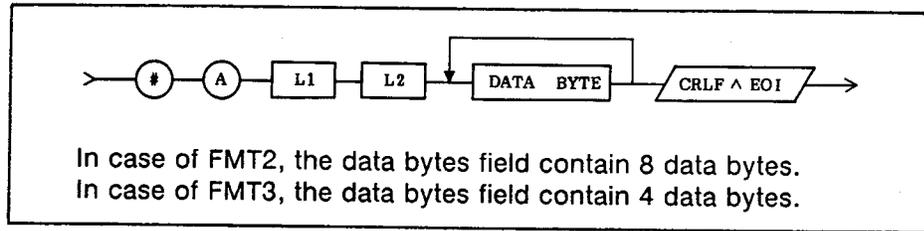

Figure 3-139. Syntax Diagram for FMT2 and FMT3
FMT2 is the 64 bit floating point binary specified in the IEEE Standard 728-1982. This is the same data format used by the HP Series 200 computers. Figure 3-139 shows the syntax diagram used for FMT2 and FMT3. This is one of the block data syntax diagrams defined by the IEEE Standard 728-1982. A block data field initiated by a unique code, the number, (#) sign. A second byte, (A), designates the data type. L1 and L2 is the block length bytes that indicates the number of data bytes in the the data block (L1: high byte, L2: low byte). The count includes all data bytes and the terminator, CR/LF(2 bytes), if they are used. Figure 3-140 shows the floating point format used for the FMT2.